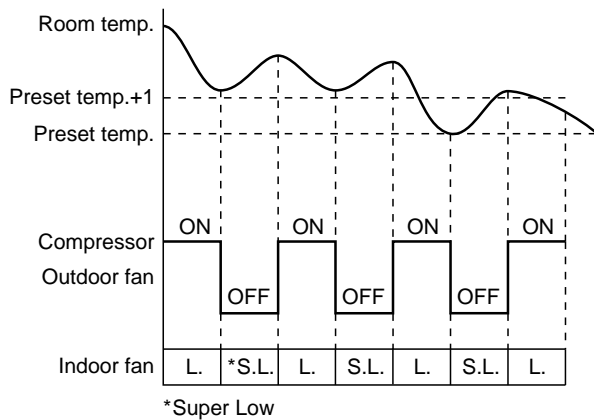

Fig. 7-3-5
- (2) The microprocessor turns the compressor on and off at the regular intervals (4 to 6 minutes). While the compressor is turning off, the indoor fan motor operates in the SUPER LOW position. The pattern of operation depending on the relation between room temperature and preset temperatures is shown in Fig. 7-3-5.